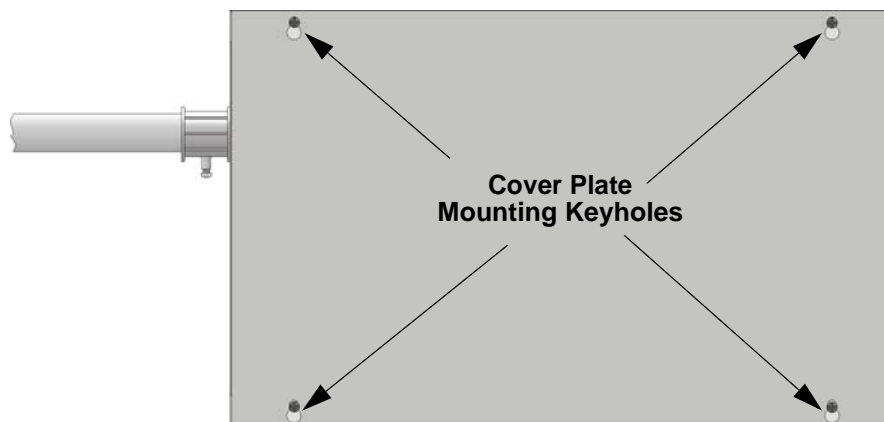

Figure 4-6 Cover Plate Mounting Keyholes and Cover Mounting Screws Alignment
- Align the cover plate mounting keyhole over the cover mounting screws. See Figure 4-6.
- Slide the cover into place and tighten the cover mounting screws. See Figure 4-6